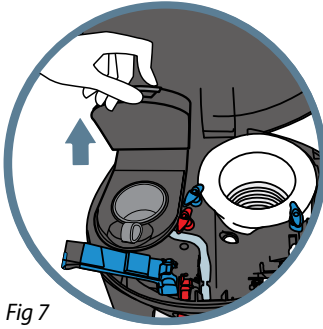

Fig 7
8. With the cooler top still open, open the coffee pod holder (Fig. 7).